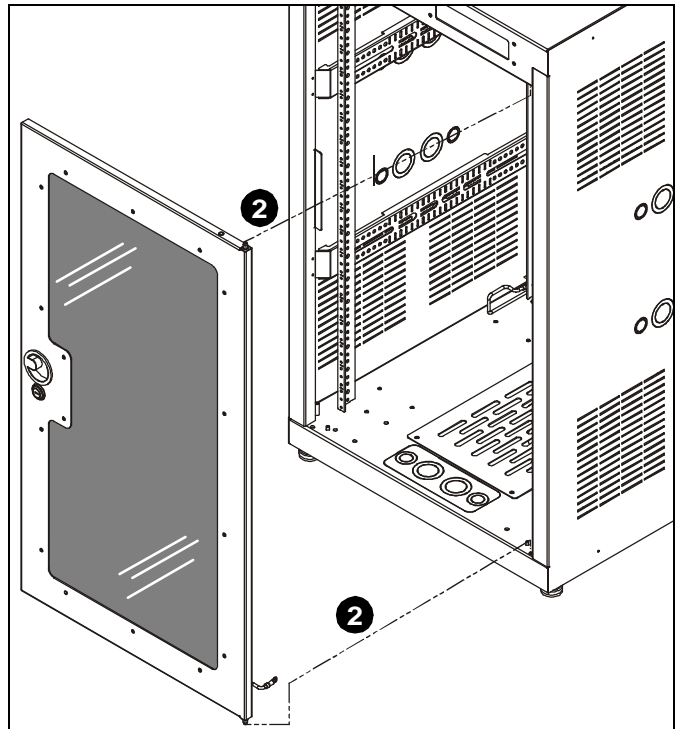

Figure 3
2. Insert door into rack, aligning the spring handle ends with the holes at top and bottom of rack. (See Figure 3)